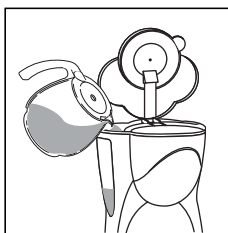

fig. 3
- Fill the water tank (the carafe gives an indication of the levels) with fresh clean water up to the mark corresponding to the number of cups of coffee to be prepared (fig. 3).